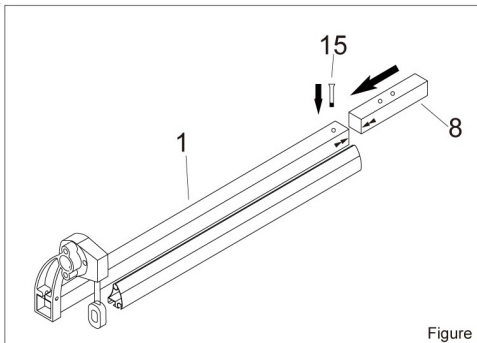

Figure 5
**Figure 5** provides the visual of how the awning should be installed.